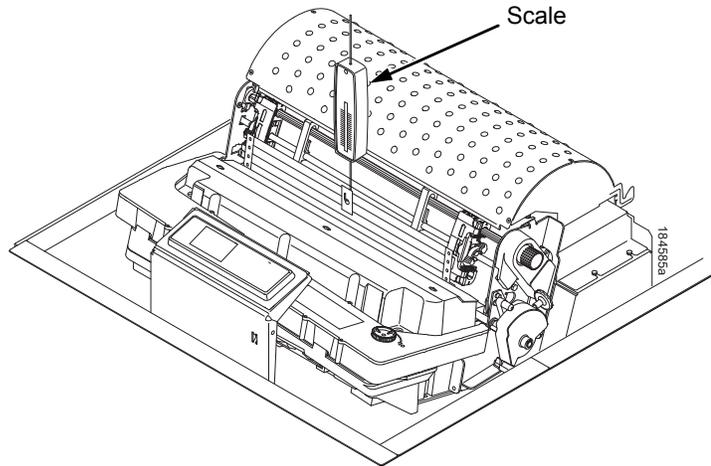

Figure 37. Measuring Paper Tension
7. Insert the hook of a "fish scale" force gauge through the tape you installed in step 5. (Figure 37.)
8. Use the scale to pull the paper slowly straight up through the print station for about six inches and note the maximum force exerted on the scale. Do not pull any page perforations through the print station. (Figure 37.)